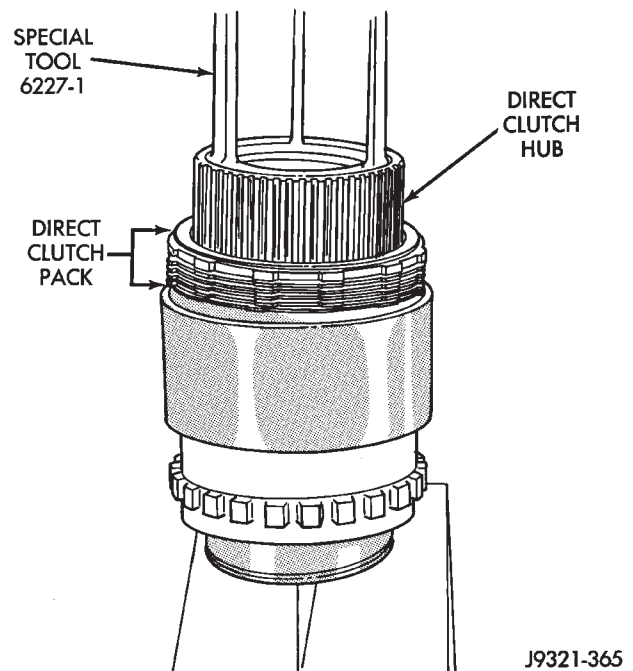

Fig. 200 Direct Clutch Pack Removal
(6) Release press load slowly and completely (Fig. 200).
(7) Remove Special Tool 6227-1. Then remove clutch pack from hub (Fig. 200).